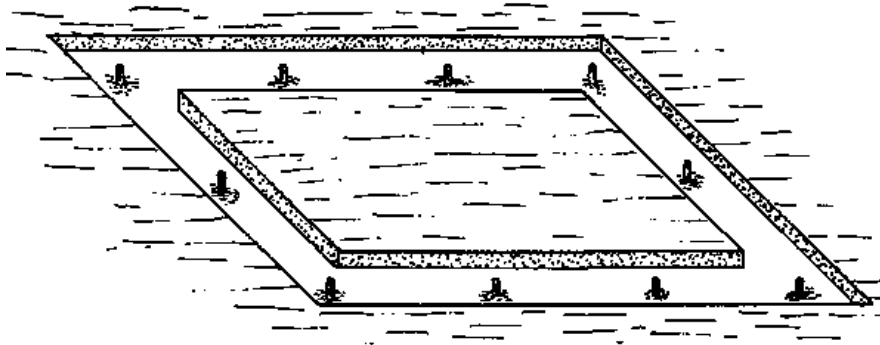

Fig. 2 PEGGING OFF THE FOUNDATION DEPTH
- The next step is to level the bottom of the trenches and to peg off the foundation depth (Fig. 2).